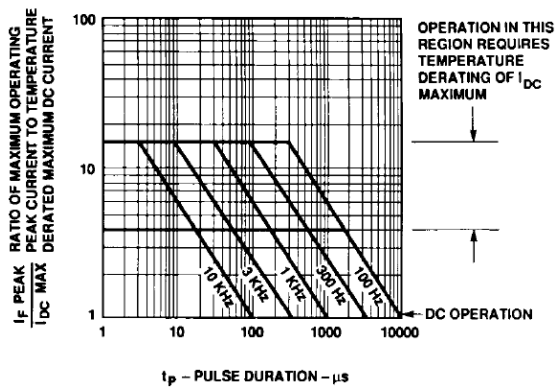

Figure 1. Maximum Tolerable Peak Current vs. Pulse Duration – AlGaAs Red.
1. See Figure 1 to establish pulsed conditions.